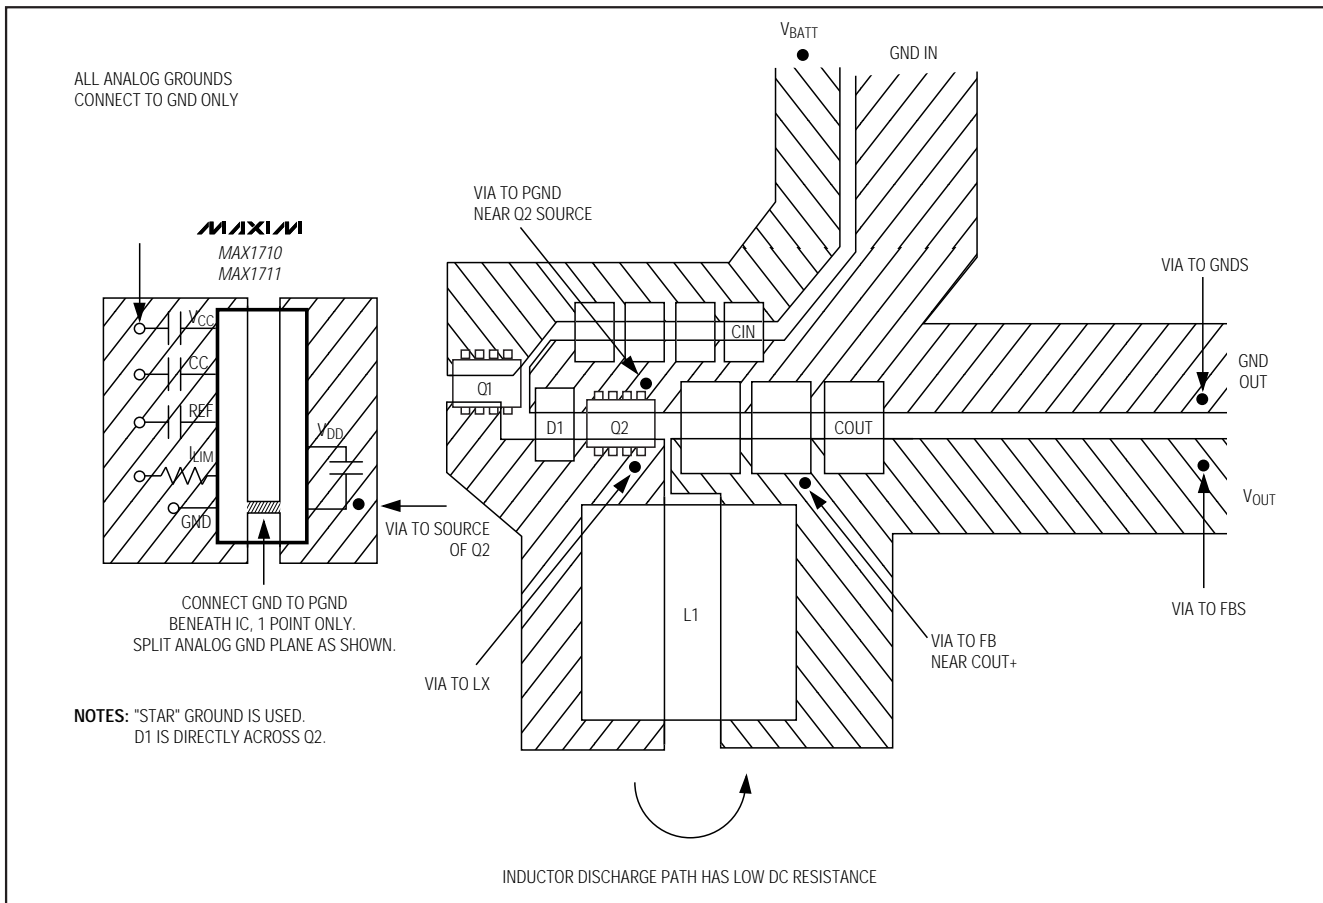

Figure 11. Power-Stage PC Board Layout Example
Careful PC board layout is critical to achieving low switching losses and clean, stable operation. The switching power stage requires particular attention (Figure 11). If possible, mount all of the power components on the top side of the board with their ground terminals flush against one another. Follow these guidelines for good PC board layout:
- 4) Make the DC-DC controller ground connections as shown in Figure 11. This diagram can be viewed as having three separate ground planes: output ground,